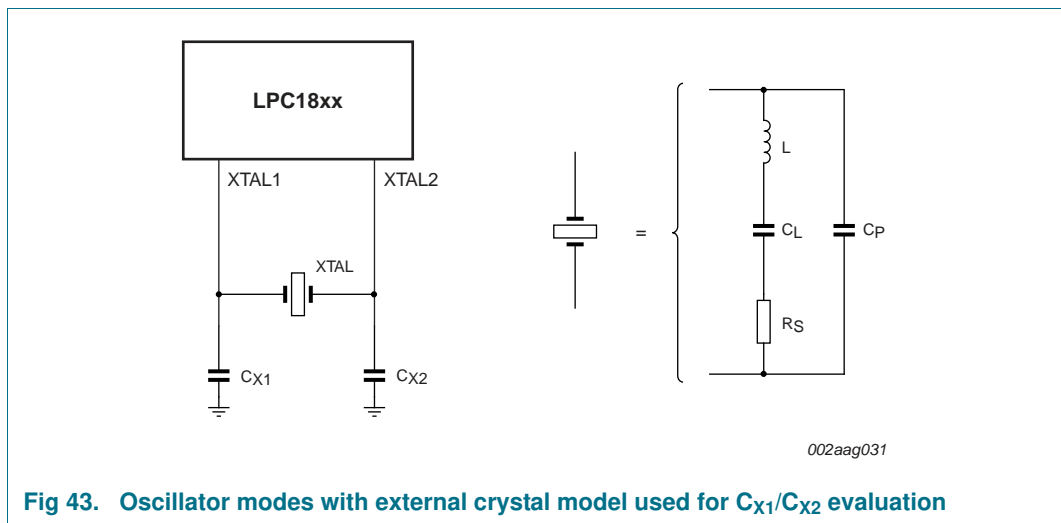

Fig 43. Oscillator modes with external crystal model used for C_{X1}/C_{X2} evaluation
- External components and models used in oscillation mode are shown in Figure 43, and in Table 37 and Table 38. Since the feedback resistance is integrated on chip, only a crystal and the capacitances C_{X1} and C_{X2} need to be connected externally in case of fundamental mode oscillation (L , C_L and R_s represent the fundamental frequency). Capacitance C_P in Figure 43 represents the parallel package capacitance and must not be larger than 7 pF. Parameters F_C , C_L , R_s and C_P are supplied by the crystal manufacturer.